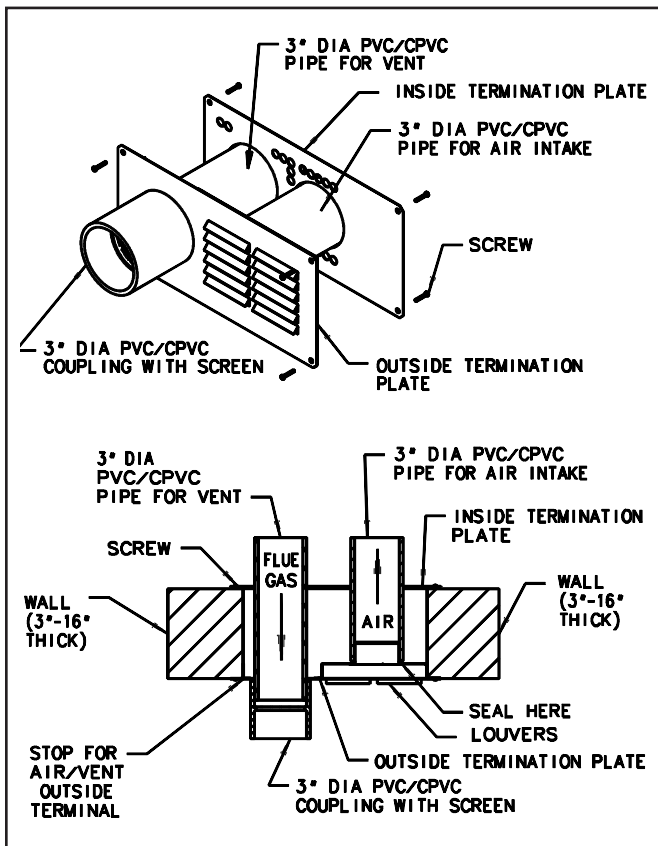

Figure 13a. Vent/Air intake termination; utilizing PVC/CPVC pipe for venting.
2. Refer to Figure 13a or 13c for installation details.